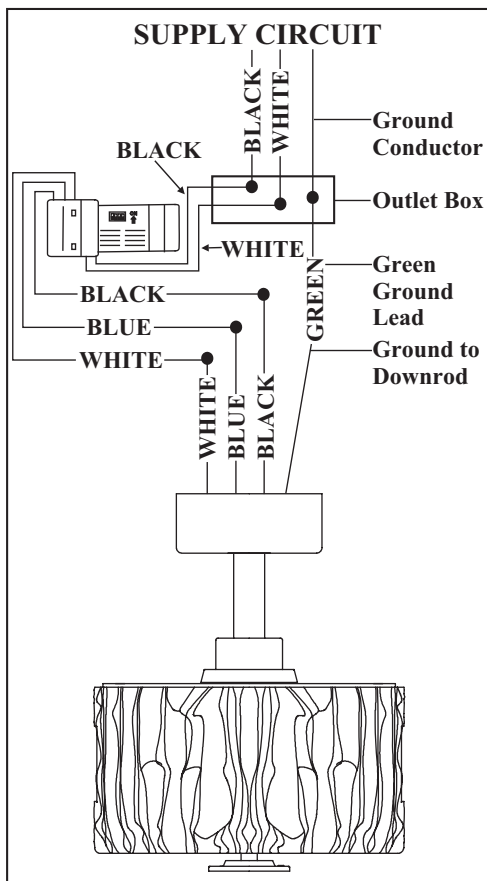

Figure 11
2. (Fig. 11) Motor to receiver electrical connections: Connect the black wire from the fan to black wire marked "TO MOTOR L". Connect the white wire from the fan to the white wire marked "TO MOTOR N" from the receiver. Connect the blue wire from the fan to the blue wire marked "For Light" from the
3. (Figure 11) Receiver to house supply wires electrical connections: Connect the black (hot) wire from the ceiling to the black wire marked "AC in L" from the receiver. Connect the white (neutral) wire from the ceiling to the white wire marked "AC in N" from the receiver. Secure the wire connections with the plastic wire connecting nuts provided.
4. (Figure 11) If your outlet box has a ground wire (green or bare copper) connect it to the fan ground wires; otherwise connect the hanging bracket ground wire to the mounting bracket. Secure the wire connection with a plastic nut provided. After connecting the wires spread them apart so that the green and white wires are on one side of the outlet box and black and blue wires are on the other side. Carefully tuck the wire connections up into the outlet box.